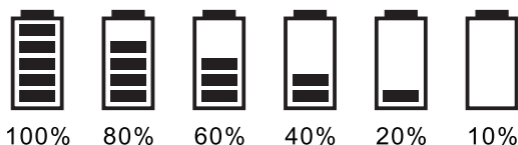

Fig. 11
1. Replace with a charged battery once level falls to 10%. Device will power off automatically with an OFF message once power level falls too low, See Fig. 11.